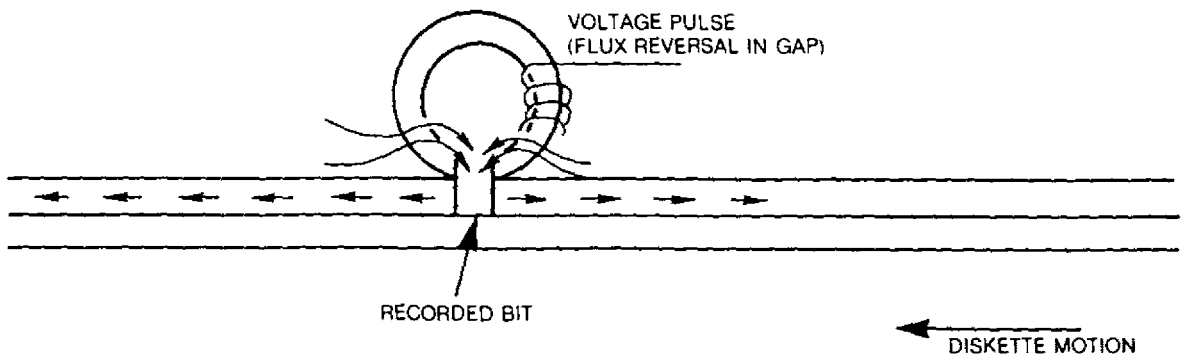

FIGURE 29. READING A BIT
1.4.4 During a read operation, a bit is read when the flux direction in the ring is reversed as a result of a flux reversal on the diskette surface. The gap first passes over an area that is magnetized in one direction, and a constant flux flows through the ring coil. The coil registers no output voltage at this point. When a flux transition passes under the gap, the flux flowing through the ring and coil will make a 180° reversal. This means that the flux reversal in the coil will cause a voltage output pulse. See Figure 29.